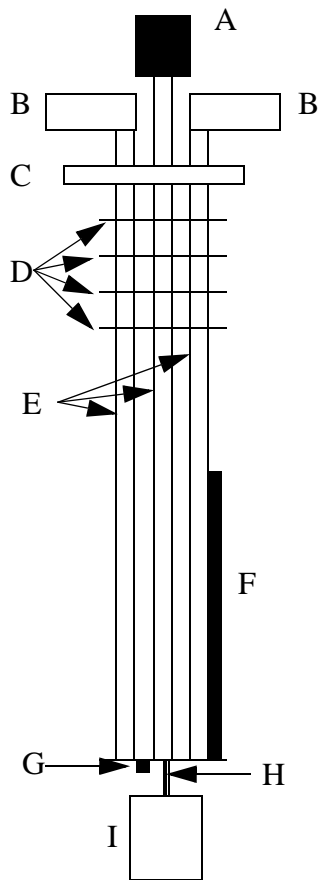

Figure 4. The cryostat insert.
The sample itself is held in the helium well by the insert. The insert is shown schematically in Figure 4. It has several jobs. It forms a vacuum seal to the helium well and completes the radiation
shielding. It supports the sample and provides electrical access to it and to the liquid helium level detector and the diode thermometer. It is a pretty standard example of laboratory cryogenic construction and what is where is described in the caption of Figure 4. How these things work and how to use them will be described later.
*The helium level detector.* You need some means of telling when you are actually putting liquid helium in the dewar and checking how much helium is left while you are running the experiment. The liquid helium level detector does these jobs. It is the long black object on the insert labeled F in Fig. 4. It consists of a 12" long black fiber glass housing with a very thin superconducting wire running its length. Electrical leads from the level detector run up the insert to a BNC junction box. These BNC's are labeled "V+" and "I+". The are the two BNC's at the left end of the top row of BNC's on the left box as you face the cryostat. Two RG174/U coaxial cables (skinny ones) with the corresponding labels connect the level detector with its read-out box. The read-out unit drives a relatively large current through the superconducting wire. The superconducting transition temperature of the wire is somewhere above 4.2 K. When the wire is immersed in liquid, the liquid keeps it below its transition temperature and the wire's resistance is zero. But cold helium gas does not remove heat from the wire as effectively as does the liquid. So if the wire is suspended above the liquid, the current drives it normal and the resistance has its normal value. Here's the neat part. When the wire is part in and part out of the liquid, the part in the liquid superconducts but the part above the liquid is normal. So the resistance of the wire increases linearly from zero to its full normal state value as the surface of the liquid moves down its length. The read-out converts the resistance to the depth of the liquid for you and reports a number between 0 and 30 cm. 30 cm means that the entire level detector is immersed. One of the things you should learn in this experiment is that even in the normal state, the resistance of a metal is, in general, temperature dependent with the resistance increasing with increasing temperature. So when the level detector is well above 4.2 K its resistance is even bigger than when it is cold and normal. In this case, the level detector decides that the helium level is some negative number of centimeters up the detector because big resistances mean low levels as far as it's concerned.